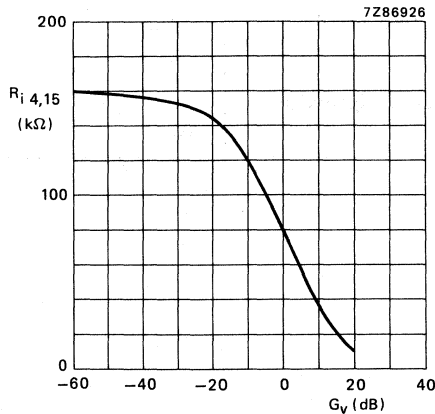

Fig.3 Input resistance (R_i) as a function of gain of volume control (G_v). Measured in Fig.1.
- Equation for input resistance (see also Fig. 3)